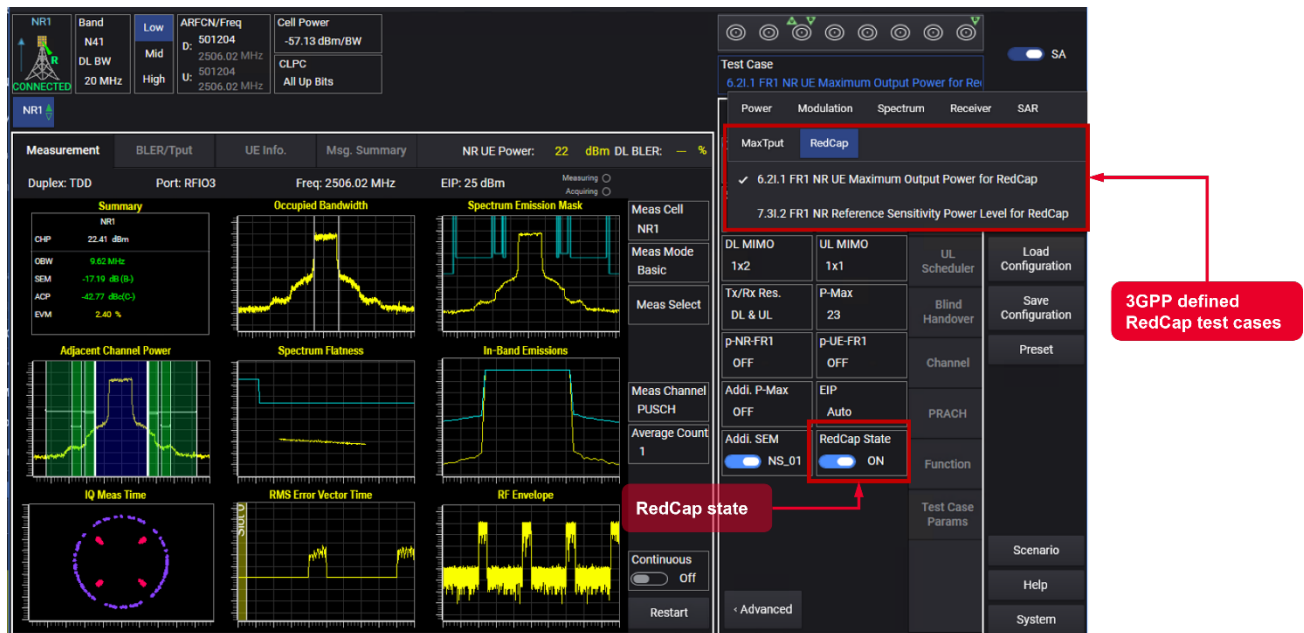

Figure 1. Test selection menu
Easily verify RF performance of 5G NR non-standalone (NSA) and standalone (SA) devices with built-in 3GPP tests. Simply select the test from the drop-down menu (Figure 1) and the S8714A RA automatically configures parameters according to 3GPP TS 38.521 and starts the measurement.